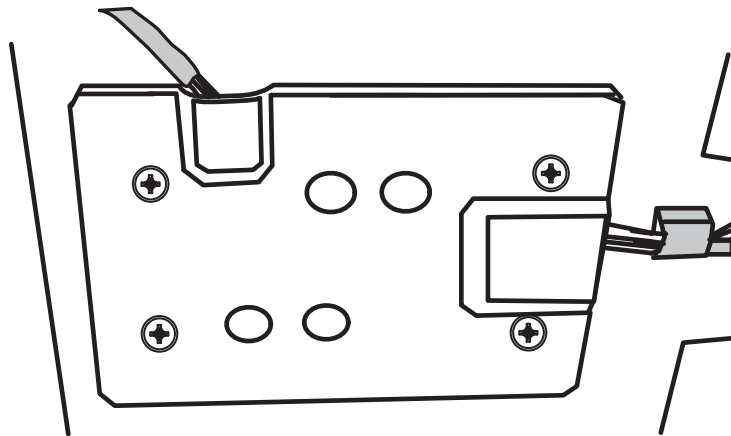

Figure 3–18: Control panel board cover plate
5. Remove the four screws securing the control panel board cover plate and then remove the control panel board cover plate (see Figure 3–18).
6. Disconnect the blue cable(s) at J2 (upper) and/or J11 (lower) locations on the control panel board (see Figure 3–19).